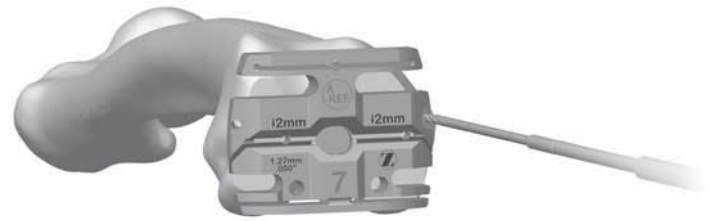

Fig. 46
- After final placement of the desired Anterior Referencing 4-in-1 Cut Guide, insert 3.2mm trocar-tipped pins through the oblique holes in the Anterior Referencing 4-in-1 Cut Guide (Fig. 46).